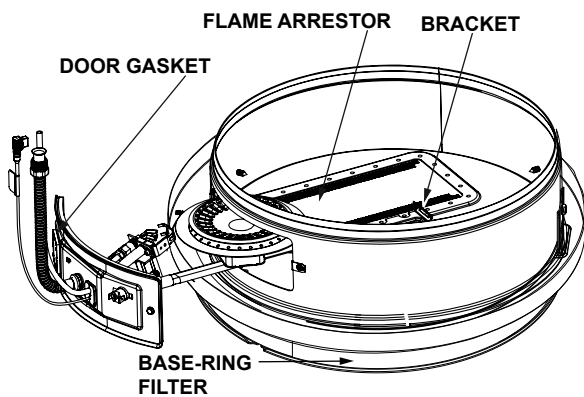

FIGURE 41.
3. Insert the manifold/burner assembly into the burner compartment, making sure that the tip of the manifold tube engages in the slot of the bracket inside the combustion chamber (Figures 41 & 42).